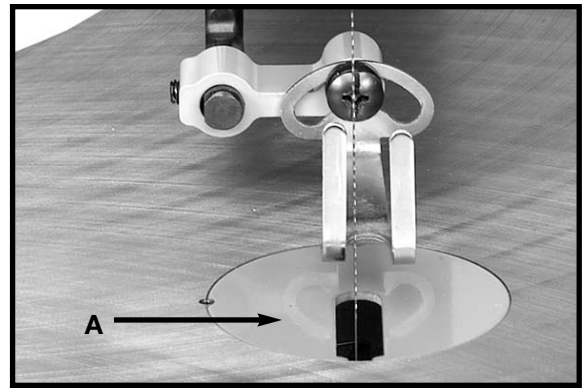
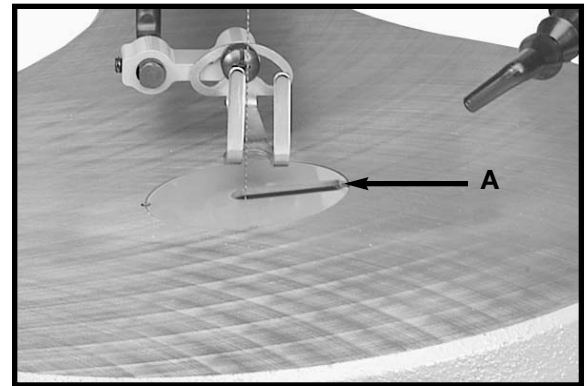

Fig. 7
Fig. 8
The table insert (A) can be assembled to the saw table with the opening in the insert pointing to the front of the table, as shown in Fig. 7, or to the right as shown in Fig. 8.
With the table in the level position, 90° to the blade, the insert (A) should be positioned, as shown in Fig. 7. This allows for the blade to be pivoted forward after it is unclamped from the top blade holder, enabling you to quickly insert the blade into the next hole in a pattern when doing inside-cutting, as you will see later in this manual.
When tilting the table for bevel cutting operations the insert (A) should be positioned as shown in Fig. 8. This allows for clearance of the blade when tilting the table.